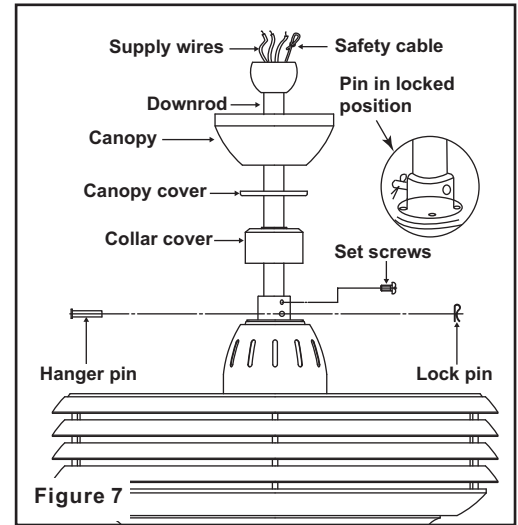

Figure 7
Step 5. Remove the hanger pin, lock pin and set screws from the top of the motor assembly. (Fig. 7)
Step 6. Route the safety cable and wires exiting from the top of the fan motor through the collar cover, canopy cover, canopy and then through the ball / downrod. (Fig. 7)
the motor housing (Fig. 7). Carefully insert the hanger pin through the holes in the collar and downrod. Be careful not to jam the pin against the wiring inside the downrod. Insert the locking pin through the hole near the end of the hanger pin until it snaps into its locked position, as noted in the circle inset of Fig. 7.
Step 8. Tighten two set screws on top of the fan motor firmly. (Fig. 7)